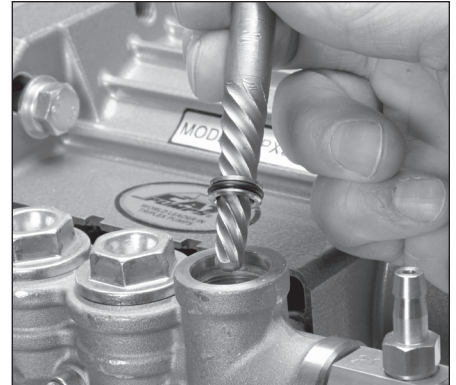

Figure 15
6. Use a #5 Easy Out to remove piston seat (See Figure 15).